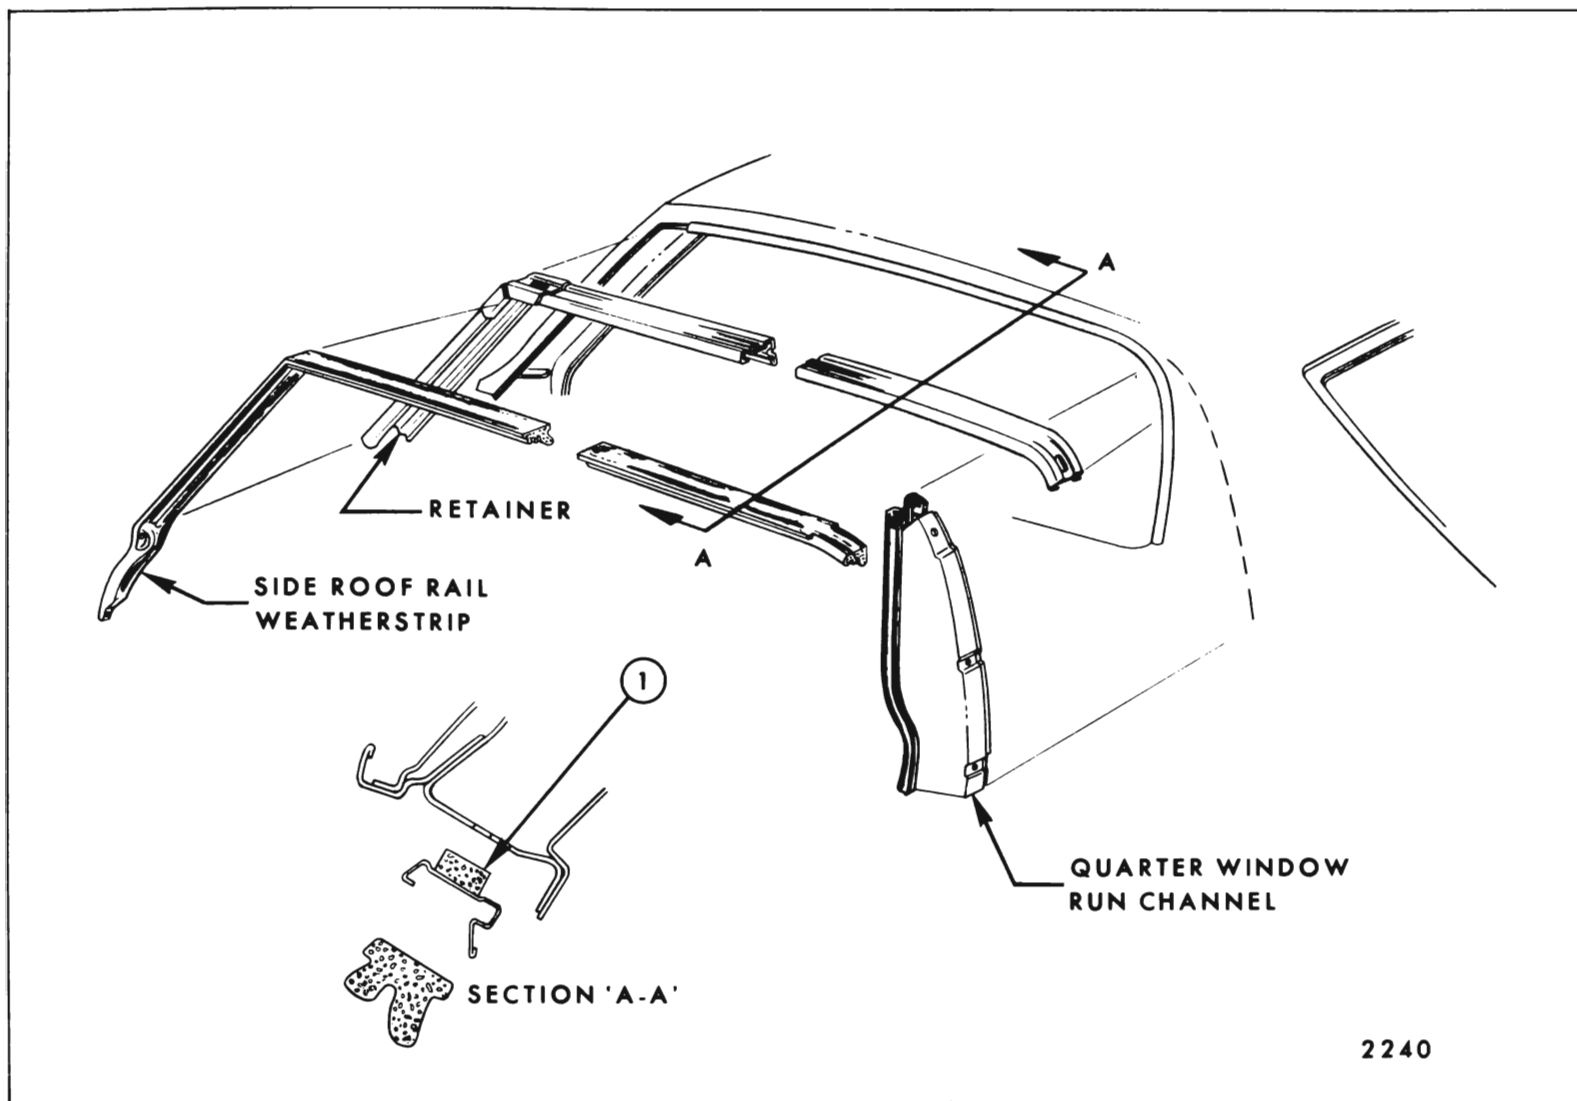

Fig. 7-37—Side Roof Rail Weatherstrip and Retainer - "B-47" Styles
1. At front of weatherstrip, disengage plastic fasteners from front body hinge pillar (Fig. 7-37 and 7-38).